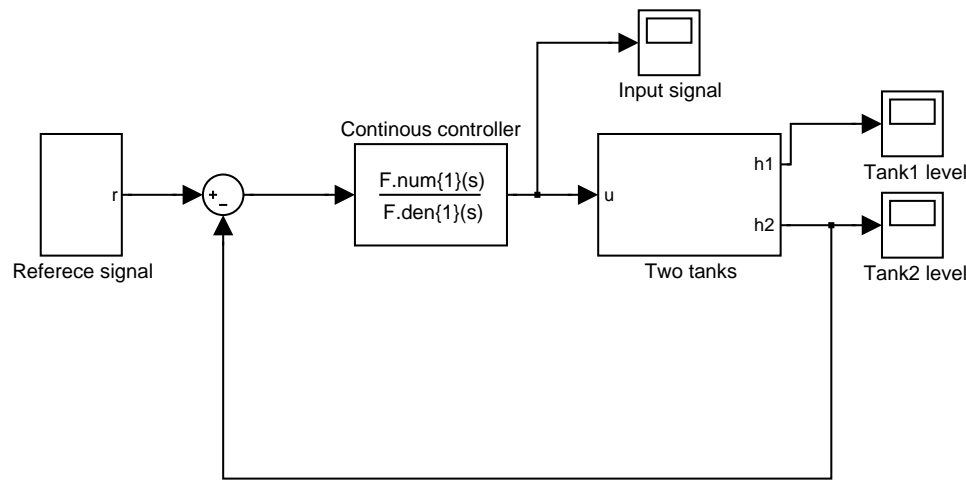

Figure 2: Simulink model of closed loop system.
- Open the Simulink model by typing `tanks`. Also open the Simulink model `controller`. Move the continuous controller to the tanks model and connect them as shown in the Figure 2. Check the reference signal block and describe what the reference signal will look like. [2p]